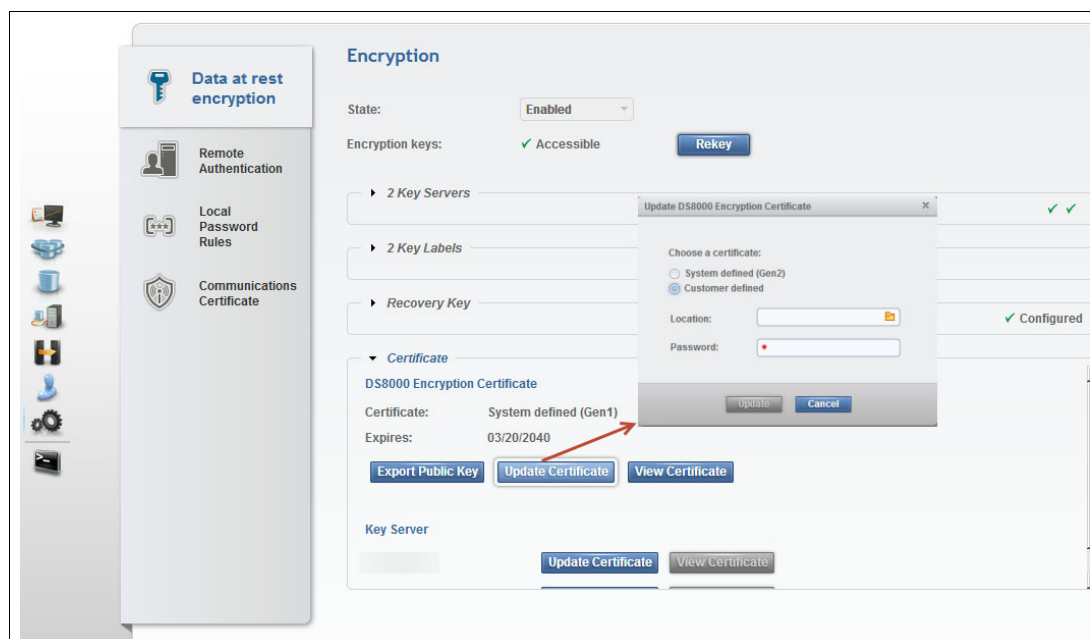

Figure 11-20 Encryption Settings Update Certificate
3. In the Customer defined window, click the file folder to specify the location of certificate and enter your password as shown in Figure 11-20.